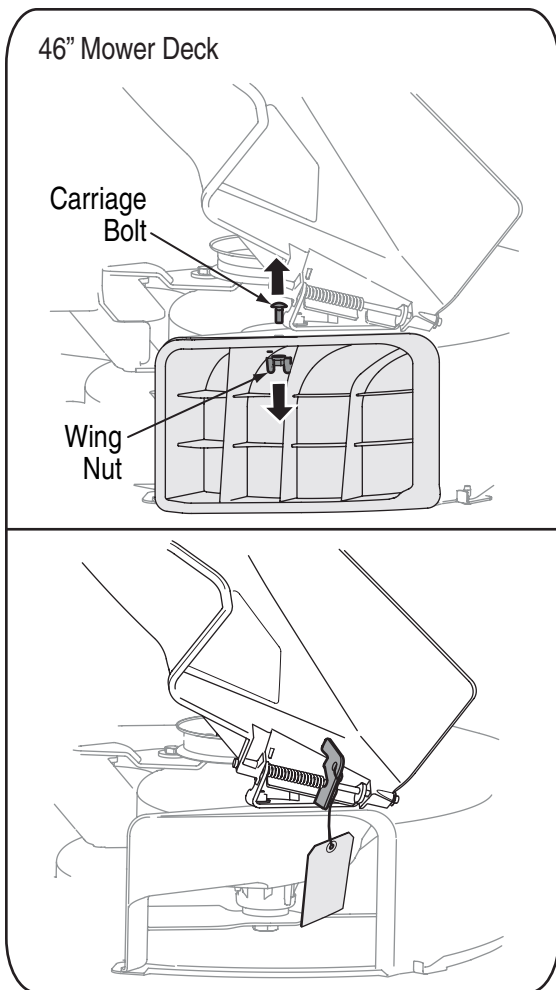

Figure 2
- Remove the wing nut and carriage bolt securing the mulching plug in the deck discharge opening, and pull the mulching plug from the deck. See Figure 2.
- Locate the shipping brace and tag, if present, between the chute deflector and the cutting deck. Holding the chute deflector fully upward, remove the shipping brace by grasping it and rotating it clockwise. Lower the chute deflector. Refer to Figure 2.
- Locate the shipping brace and tag, if present, between the chute deflector and the cutting deck. Holding the chute deflector fully upward, remove the shipping brace by grasping it and rotating it. Lower the chute deflector. Refer to Figure 2.